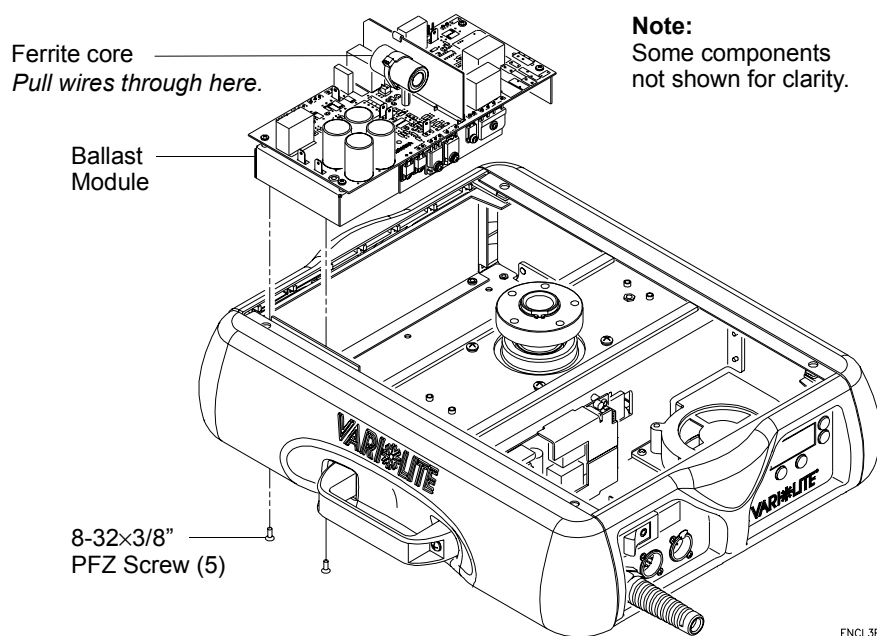

Figure 2-18: Ballast Module Replacement
Step 7. Pull wires through ferrite core. **Figure 2-18.**